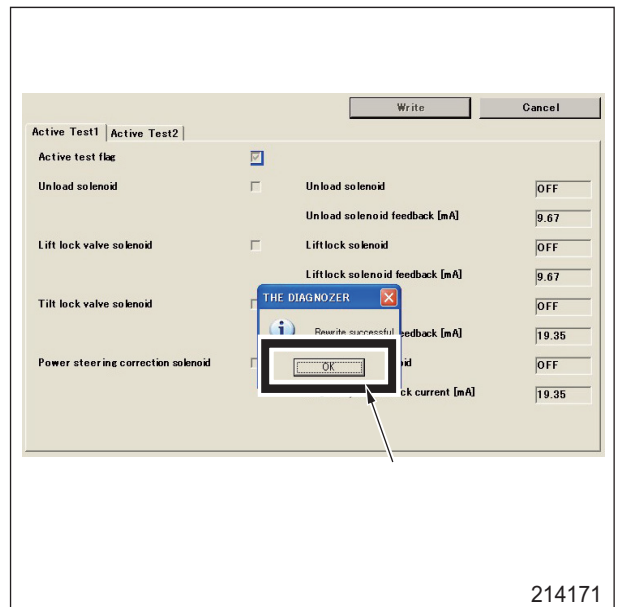

Fig. 1-9 Write completed check screen
- (4) When the write completed dialogue box is displayed, press the OK button. (Fig. 1-9)